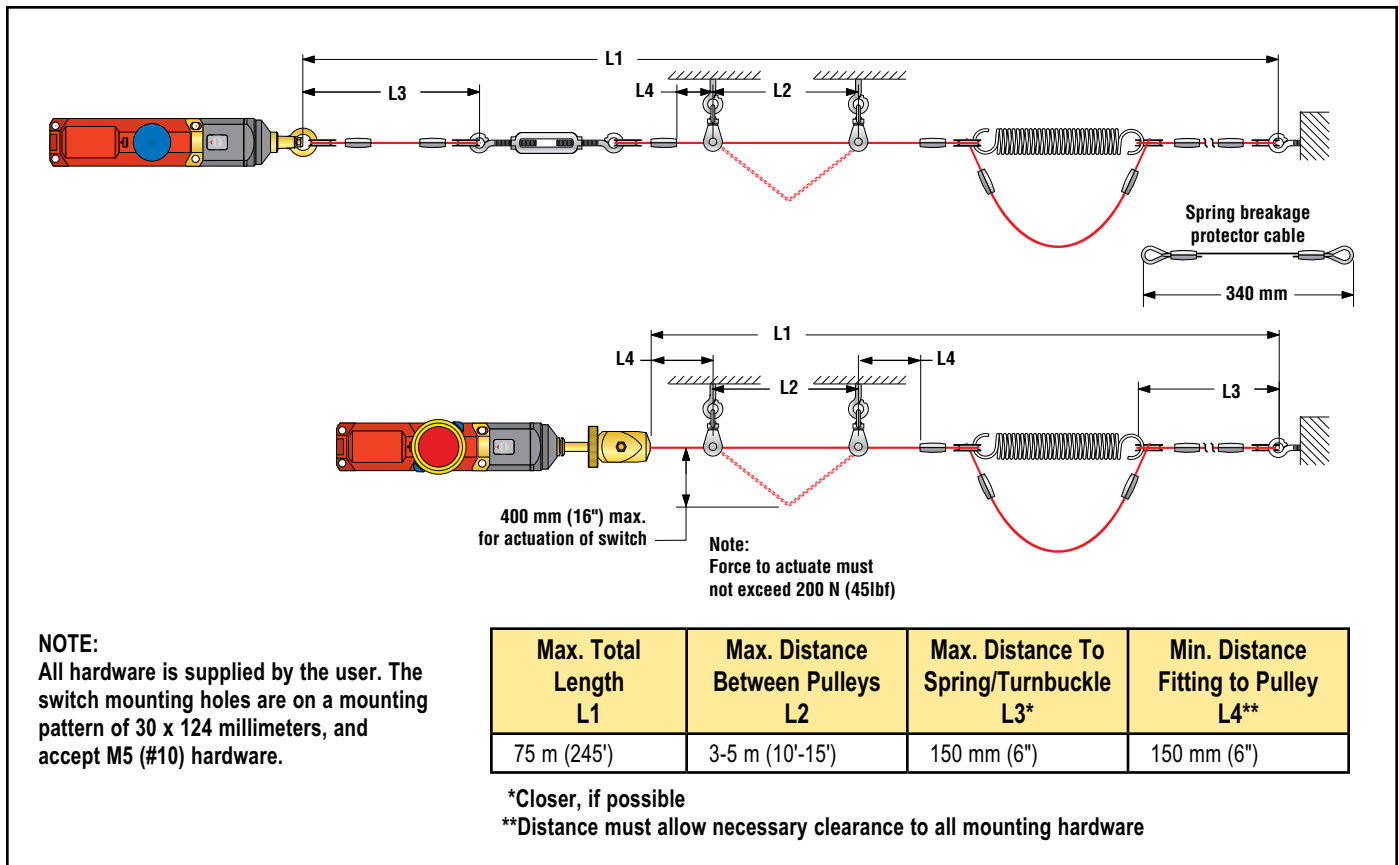

Figure 3. Assembly of rope and hardware (rope span components are listed on page 10)
- Do not exceed the maximum total rope length, as specified in Figure 3. Banner offers models for greater spans; contact the factory or visit www.bannerengineering.com for model selection.
3. Assemble the rope, as shown in Figure 3. Keep the rope's PVC cover intact along its complete length.